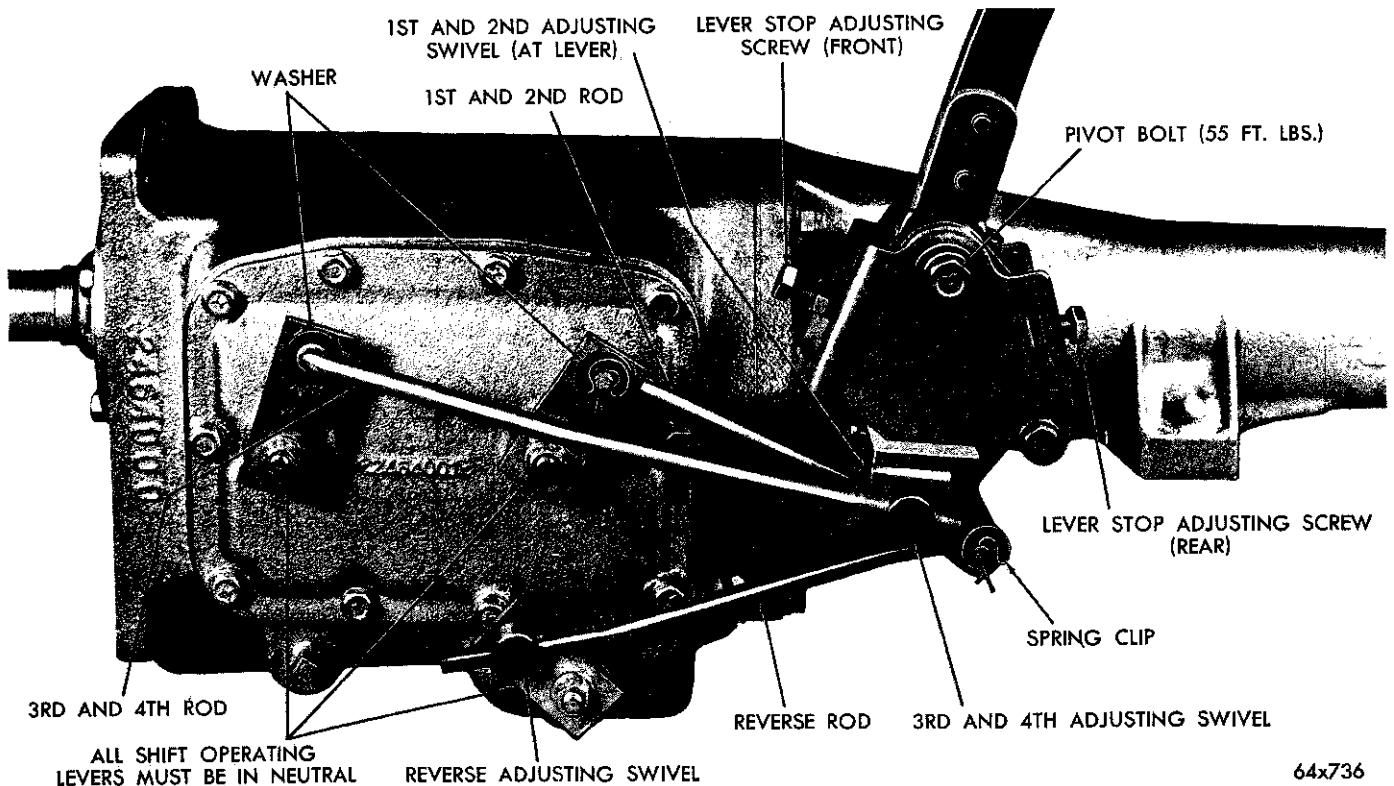

Fig. 3—Gearshift Linkage Adjustments
(1) Remove the shift boot attaching screws and slide the boot up on the shift lever (Fig. 3). Check to be sure the pivot bolt is tightened securely (55 foot-pounds). Check to be sure shift lever bolts are tightened securely (30 foot-pounds).
(2) Disconnect all the shift rods from the levers
(3) Slide Tool C-3951 over the levers, inserting center pin through the first two levers. Tighten set screw securely. (This aligns the 3 levers in the gear shift control assembly, and holds them in the neutral position, as shown in Figure 3.)
(4) Adjust the length of the three shift rods, by